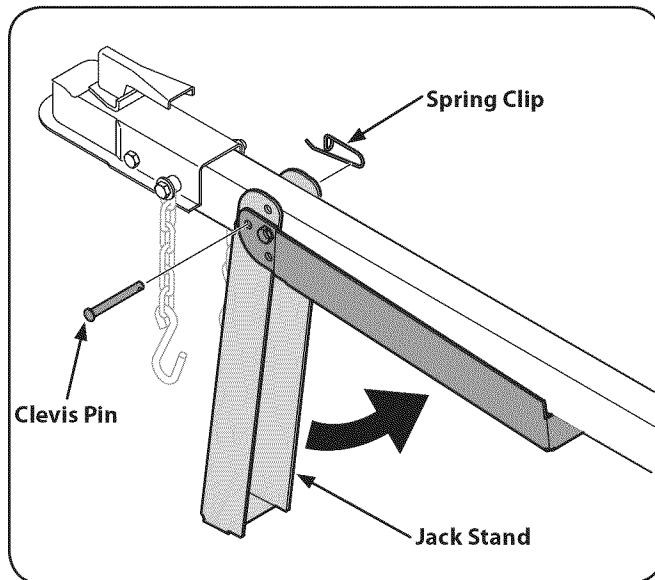

Figure 5-5
- Support the tongue and pivot the jack stand up against the tongue. See Fig. 5-5.
- Secure with the spring clip and clevis pin previously removed. See Fig. 5-5.